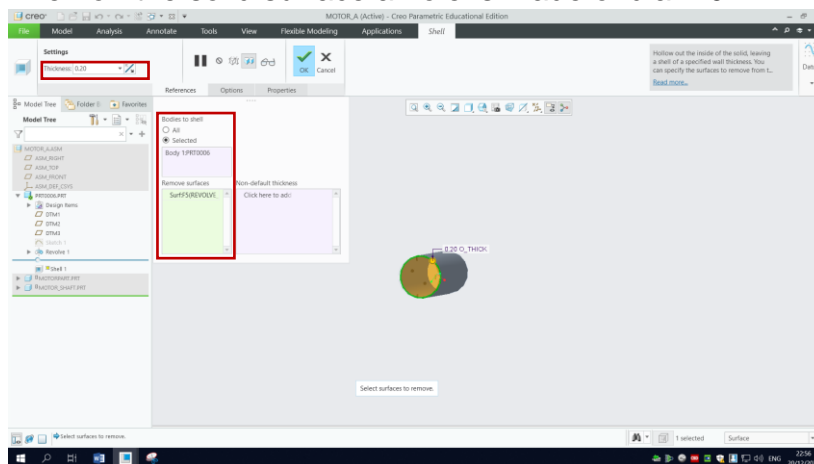

fig4.1
- Then using the shell tool  **0.2mm** thick shell is made as shown in fig4.1.